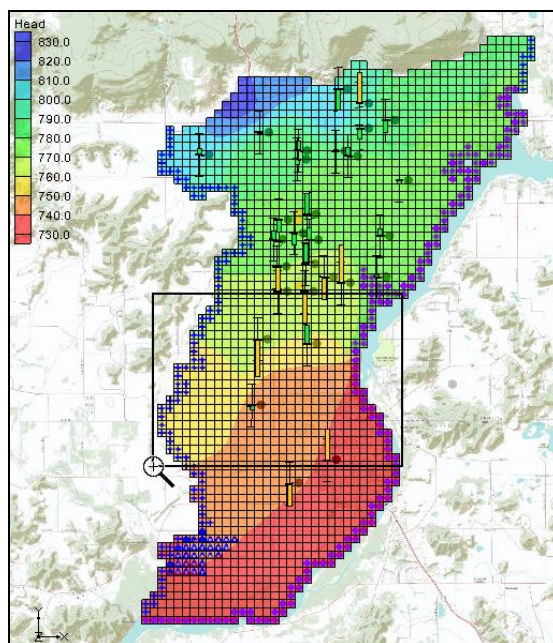

Figure 4 Area in model where new well will be created
1. **Zoom**  in by dragging a box around the area shown in Figure 4.